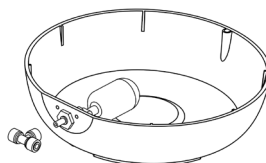

Figure 5
2. Then attach the T-Piece to the plastic hose on the exterior of the Boum Pot (see Fig. 5 for the Boum Pot 13 L Pro example). Make sure that the T-piece is pushed onto the white connector as far as possible. In case you are only attaching a single Boum Pot, close one of the holes of the T-piece with the supplied end plug.